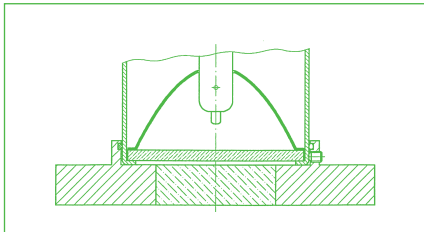

Fig. 2
2. Alternatively the luminaire can fit and be secured inside a female circular upstand. Here too the seal is made by an O ring. (see fig. 2).